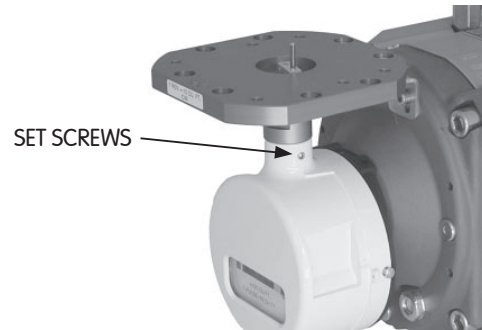

Figure 29. Set screw installation
- xv) Using a 3mm Allen wrench, install two set screws through the index cover neck to secure the adaptor plate assembly [Figure 29]. Tighten snugly.